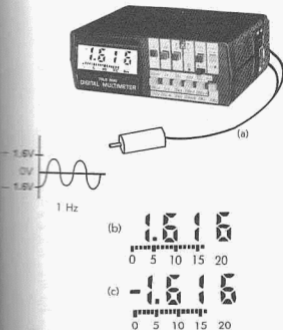

FIGURE 6-1.
6.2.2 As an example of the low frequency signal measurement application, consider a servo-control system in which the position of a slowly rotating shaft is converted into a voltage proportional to the sine of the shaft's angular position. The test set-up required is shown in Figure 6.1 (a).
6.2.3 To measure the low frequency signal shown in Figure 6.1 (a), use the following procedure:
- (d) Depress the PEAK HOLD button with the " $\pm$ " switch in the "+" position. The positive peak voltage (+1.6V) will be held and displayed as shown in Figure 6.1 (b). Note that the bargraph is still following the input signal. The bargraph is not affected by the Peak Hold function.
- (e) With the PEAK HOLD switch depressed, slide the " $\pm$ " switch to the "-" position. The negative peak voltage (-1.6V) will be held and displayed as shown in Figure 6.1 (c). Note that the bargraph is still following the input signal.